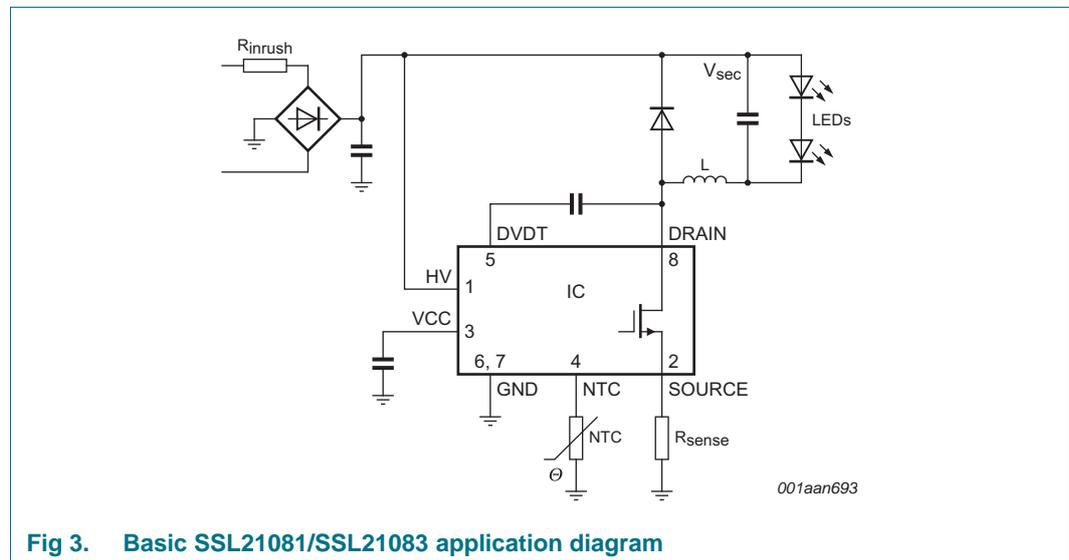
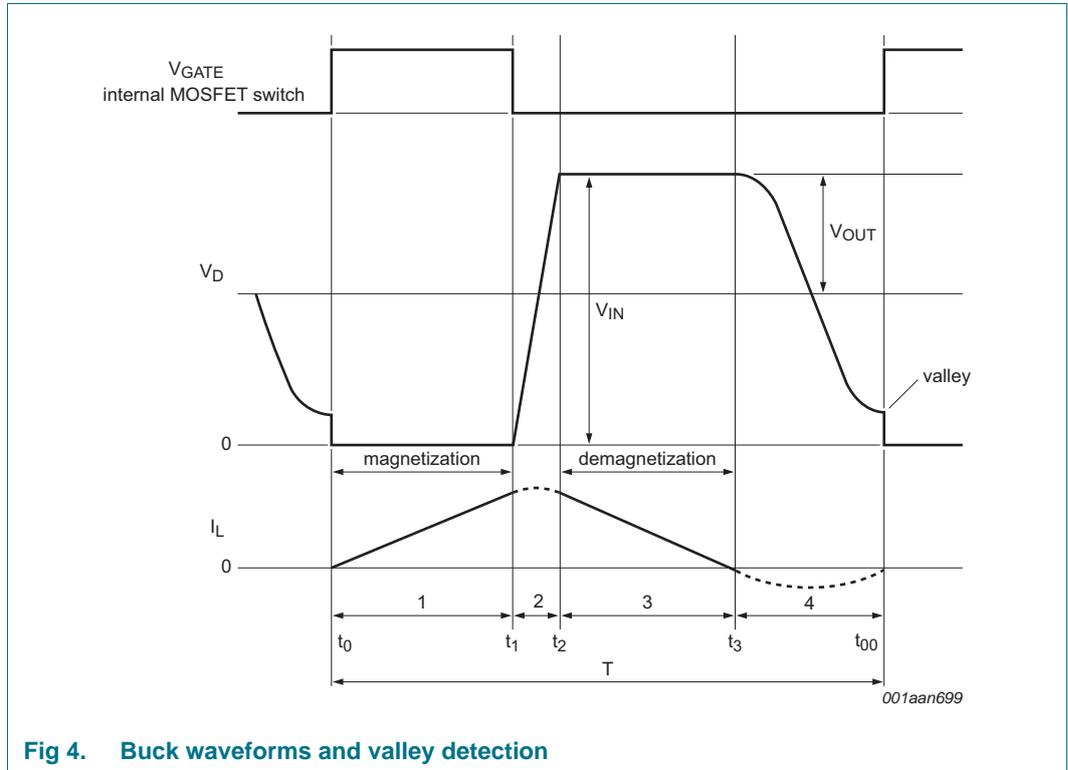

Fig 3. Basic SSL21081/SSL21083 application diagram
Fig 4. Buck waveforms and valley detection
- Low component count (see Figure 3) LED driver solution:
The converter in the SSL21081/SSL21083 is a Boundary Conduction Mode (BCM), peak current controlled system. For the basic application diagram see Figure 3, for the waveforms see Figure 4. This converter type operates at the boundary between continuous and discontinuous mode. Energy is stored in inductor L each period that the switch is on. The inductor current  $I_L$  is zero when the internal MOSFET switch is switched on. Thereafter, the amplitude of the current build-up in L is proportional to  $V_{IN} - V_{OUT}$  and the time that the internal MOSFET switch is on. When the internal MOSFET switch is switched off, the current continues to flow through the freewheel diode and the output capacitor. The current then falls at a rate proportional to the value of  $V_{OUT}$ . The LED current  $I_{LED}$  is almost equal to half the peak switch current. A new cycle is started, as soon as the inductor current  $I_L$  is zero.
A new cycle is started when the primary switch is switched on (see Figure 4). Following time  $t_1$ , when the peak current is detected on the SOURCE pin, the switch is turned off and the secondary stroke starts (3). When the secondary stroke is complete and the coil current at  $t_3$  equals zero, the drain voltage starts to oscillate around the  $V_{IN} - V_{OUT}$  level. The amplitude equals  $V_{OUT}$ . A special feature, called valley detection is an integrated part of the SSL21081/SSL21083 circuitry. Dedicated built-in circuitry connected to the DRAIN pin, senses when the voltage on the drain of the switch has reached its lowest value. The next cycle is then started and as a result the capacitive switching losses are reduced.